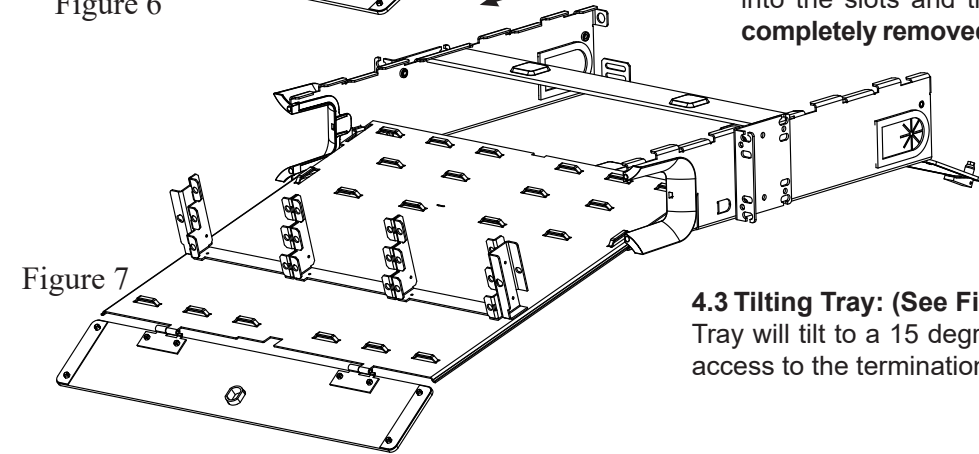

Figure 7
4.3 Tilting Tray: (See Figure 7)